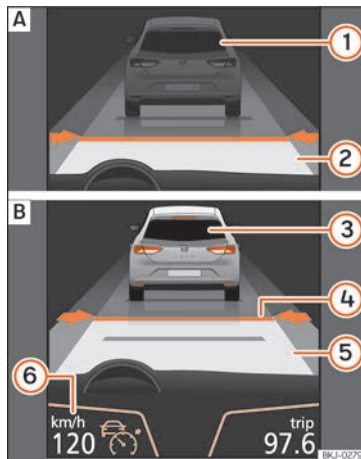
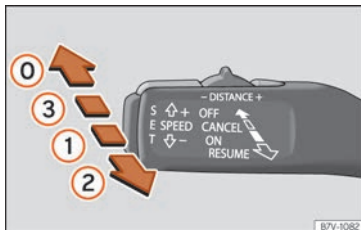
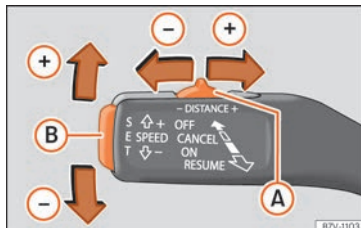
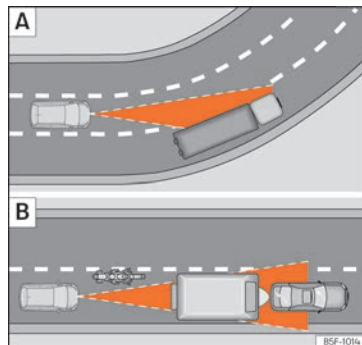

Fig. 252 On the instrument panel display: **A** ACC inactive (Standby). **B** ACC active.
Fig. 253 On the left of the steering column: operating the ACC with the third lever.
Fig. 254 On the left of the steering column: operating the ACC with the third lever.
Fig. 255 **A** Vehicle on a bend. **B** Motorcyclist ahead, out of range of the radar sensor.
Indications on the display » **Fig. 252:**
When the ACC is connected, the green control lamp (ACC) will light up on the instrument panel, and the programmed speed and ACC status will be displayed » **Fig. 252**.
- To activate the ACC, move the third lever to position **ON** » **Fig. 253 ①**. At this time, the ACC is not active and there is no programmed speed.
- Next, press button **SET** » **Fig. 254 B** or move the lever to position **RESUME** » **Fig. 253 ②**. At this moment the ACC is activated and the current speed and distance are programmed. The picture on the instrument cluster will change to Active » **Fig. 252 B** mode.
- To set the speed, move the third lever up (+) or down (-) to the desired speed » **Fig. 252 ⑥**. The speed adjustment is made at 10 km/h (6 mph) intervals.
- If you wish to increase speed by intervals of 1 km/h [0.6 mph], move the lever to position **RESUME** » Fig. 253 ②, or to decrease it press button **SET** » Fig. 254 ⑧.
- To increase or reduce the distance, press button ① to the right or left » Fig. 254.
The instrument panel display modifies the selected distance » Fig. 252 ④. There are 5 distance levels to choose from. SEAT recommends level 3. The set distance can be changed when the vehicle is stopped or while driving » ①.
- To disconnect the ACC move the lever to position **OFF** (fixed) » Fig. 253 ①. An **ACC deactivated** message appears and the function is totally deactivated.
System acceleration can be interrupted at any time by pressing the brake or moving the third lever to position **CANCEL** » **Fig. 253** ③.
When entering or leaving some curves, the radar sensor may cease to sense the vehicle driving in front of it, or react to a vehicle in the adjacent lane » **Fig. 255** [A]. The vehicle may brake unnecessarily or stop reacting to the vehicle in front. In this case, the driver has to intervene by accelerating or interrupting braking by applying the brake or pushing the third lever to position **CANCEL** » **Fig. 253** ③.
The radar sensor can only detect narrow vehicles or vehicles that circulate out of alignment when they enter its range » **Fig. 255** [B]. In these cases, you should brake as necessary.